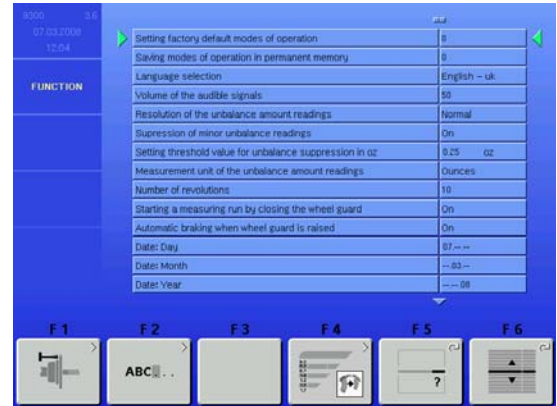

Figure 45
2. Press and release the **“Calibration”** key (F1). Fig 45.